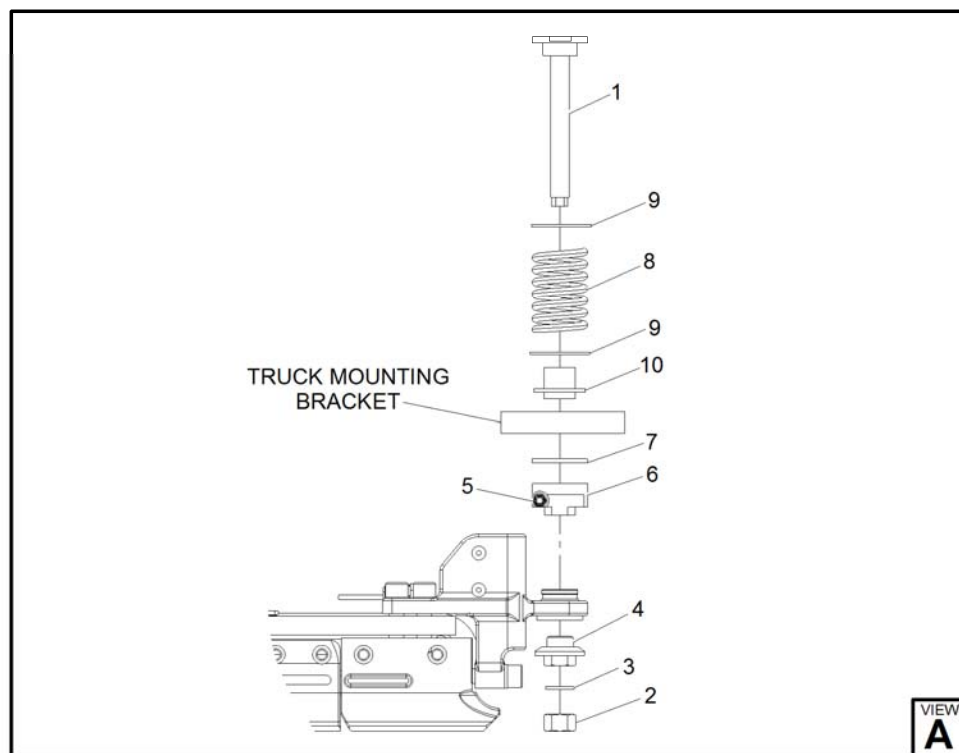

Figure 7-3: Track Brake
1. Loosen locknut (5, Figure 7-3) on collar nut (6) using a 13 mm wrench.
2. Hold adjusting pin (1) to keep it from turning, using the hex portion at the base, and loosen collar nut (6) on adjusting pin (1) by turning hex portion counterclockwise with a 30 mm wrench. Loosen collar nut so that collar nut is approximately 1/2-inch above track brake magnet.
5. Hold adjusting pin (1) to keep it from turning, using the hex portion at the base, and remove hex nut (2) and locking device washer (3). Discard locking device washer.
6. Remove adjusting nut (4) from adjusting pin (1).
7. Push adjusting pin (1) upwards until it clears the track brake.
2. Place bushing (10, Figure 7-3) into the mounting bracket on the truck frame. The larger diameter should face up.
3. Insert adjusting pin (1) into center of two washers (9), compression spring (8) and truck frame.
4. Place damping pad (7) on adjusting pin (1) from underside of truck frame bracket.
5. Apply Staburags NBU30 PTM to locknut (5) and finger tighten.
6. Secure compression spring (8) in place by threading collar nut (6) up adjusting pin (1). Turn hex portion of collar nut (6) clockwise using a 30 mm wrench.
8. Lift track brake magnet into place and insert tip of adjusting pin (1) into track brake magnet end bracket.
9. Secure assembly in place by threading adjusting nut (4) onto adjusting pin (1). Turn adjusting nut (4) clockwise using a 30 mm wrench.
2. Turn the adjusting nut (4, Figure 7-3) on both spring suspensions until the distance between the magnet and top of rail is 0.41 in. (10.5 mm).